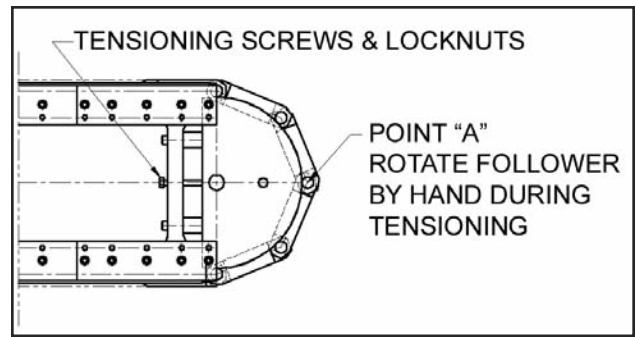

Figure 2 Conveyor re-tensioning
4. Hand crank the index drive input reducer until a link pin bearing is positioned at the high point of the take-up cam (point "A" as shown in Figure 2).